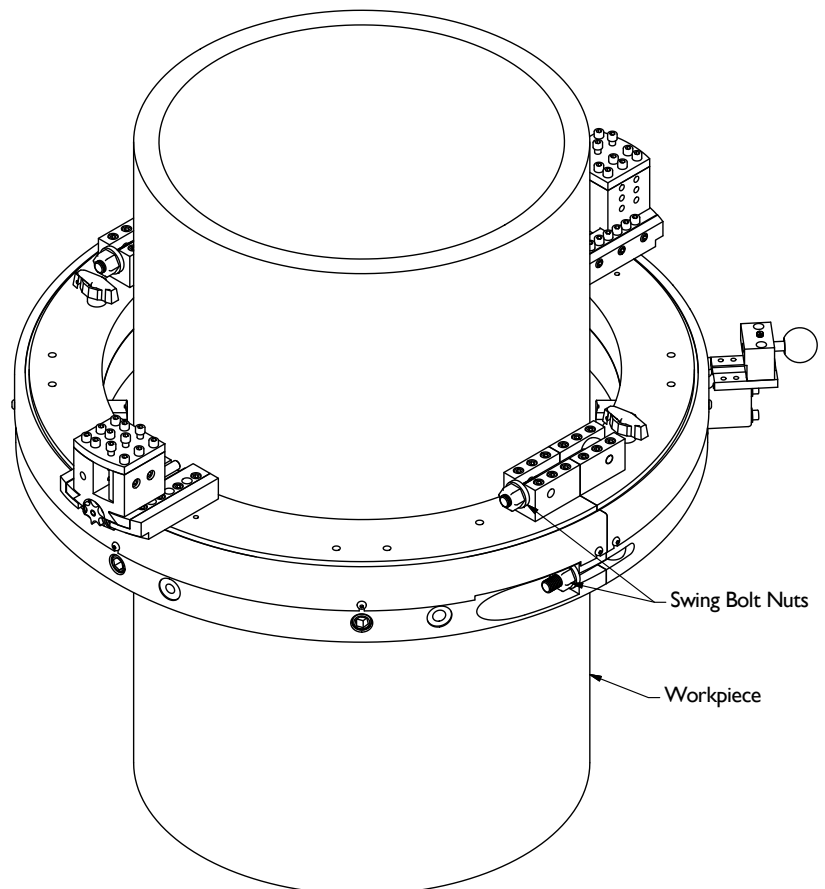

Figure 4 - Install Clamshell on Workpiece
4. Place the clamshell around the workpiece. Close the clamshell by tightening the four swing bolt nuts previously loosened. Tighten the locators against the workpiece just enough to hold the clamshell in place. Final tightening will be completed after the clamshell is centered and squared to the workpiece. See Figure 4.